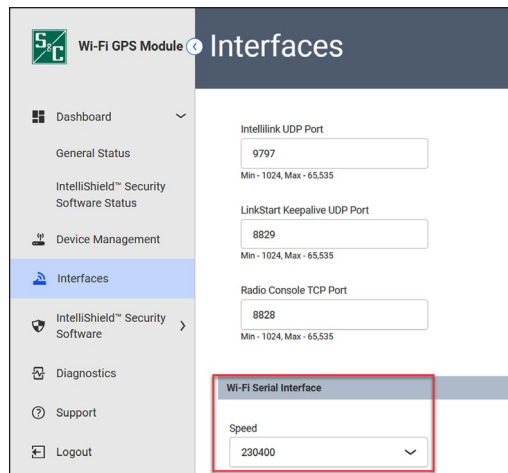

Figure 57. The *Interfaces>Wi-Fi Serial Interface* screen.
- STEP 8.** Go to the *Interfaces* screen. For the Wi-Fi Serial Interface setting at the bottom of the screen, change the **Speed** setting to “230,400.” See Figure 57.